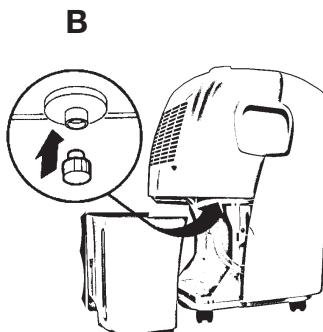

Fig. 7
2. Pull out the water tank, put the water cap from the back of the unit into drain hole (**B**), found in the compartment (**Fig. 7**).